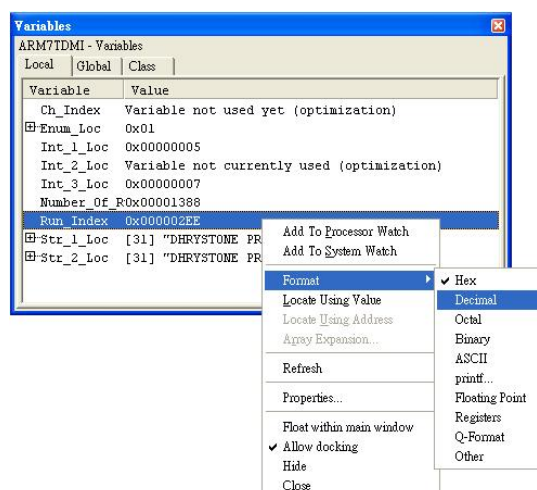

Figure 8. Pop-up menu for Local variable in Processor View.
- 7.2 Right-click on the variable so that it is selected and a pop-up menu appears (Figure 8). Select **Format → Decimal** and the value is now displayed as 750 (decimal).
8. Explore the various display options available from the pop-up menu (Figure 8). Try some other settings in both the **Format** submenu and the **Default Display Options** dialog displayed when you select **Properties**....